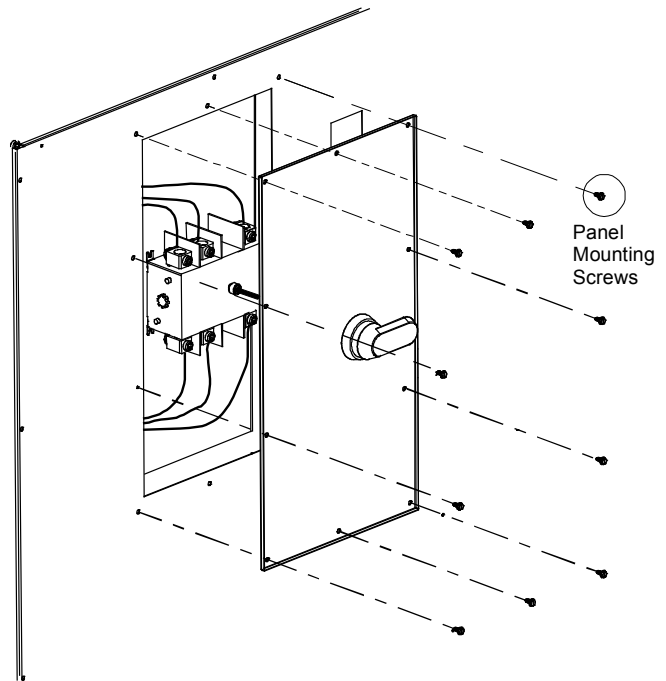

Figure 4
7. Secure the panel with the panel mounting screws (Figure 4).